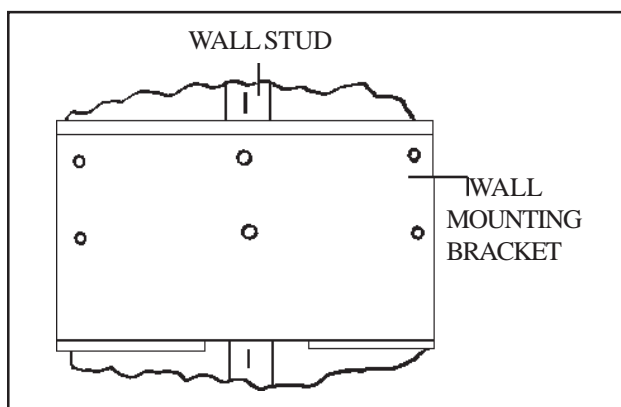

FIGURE 2
**STEP 3.** Attach wall mounting bracket to wall stud with top at desired height, using (2) screws provided. Make sure top of bracket is level. See Figure 2.